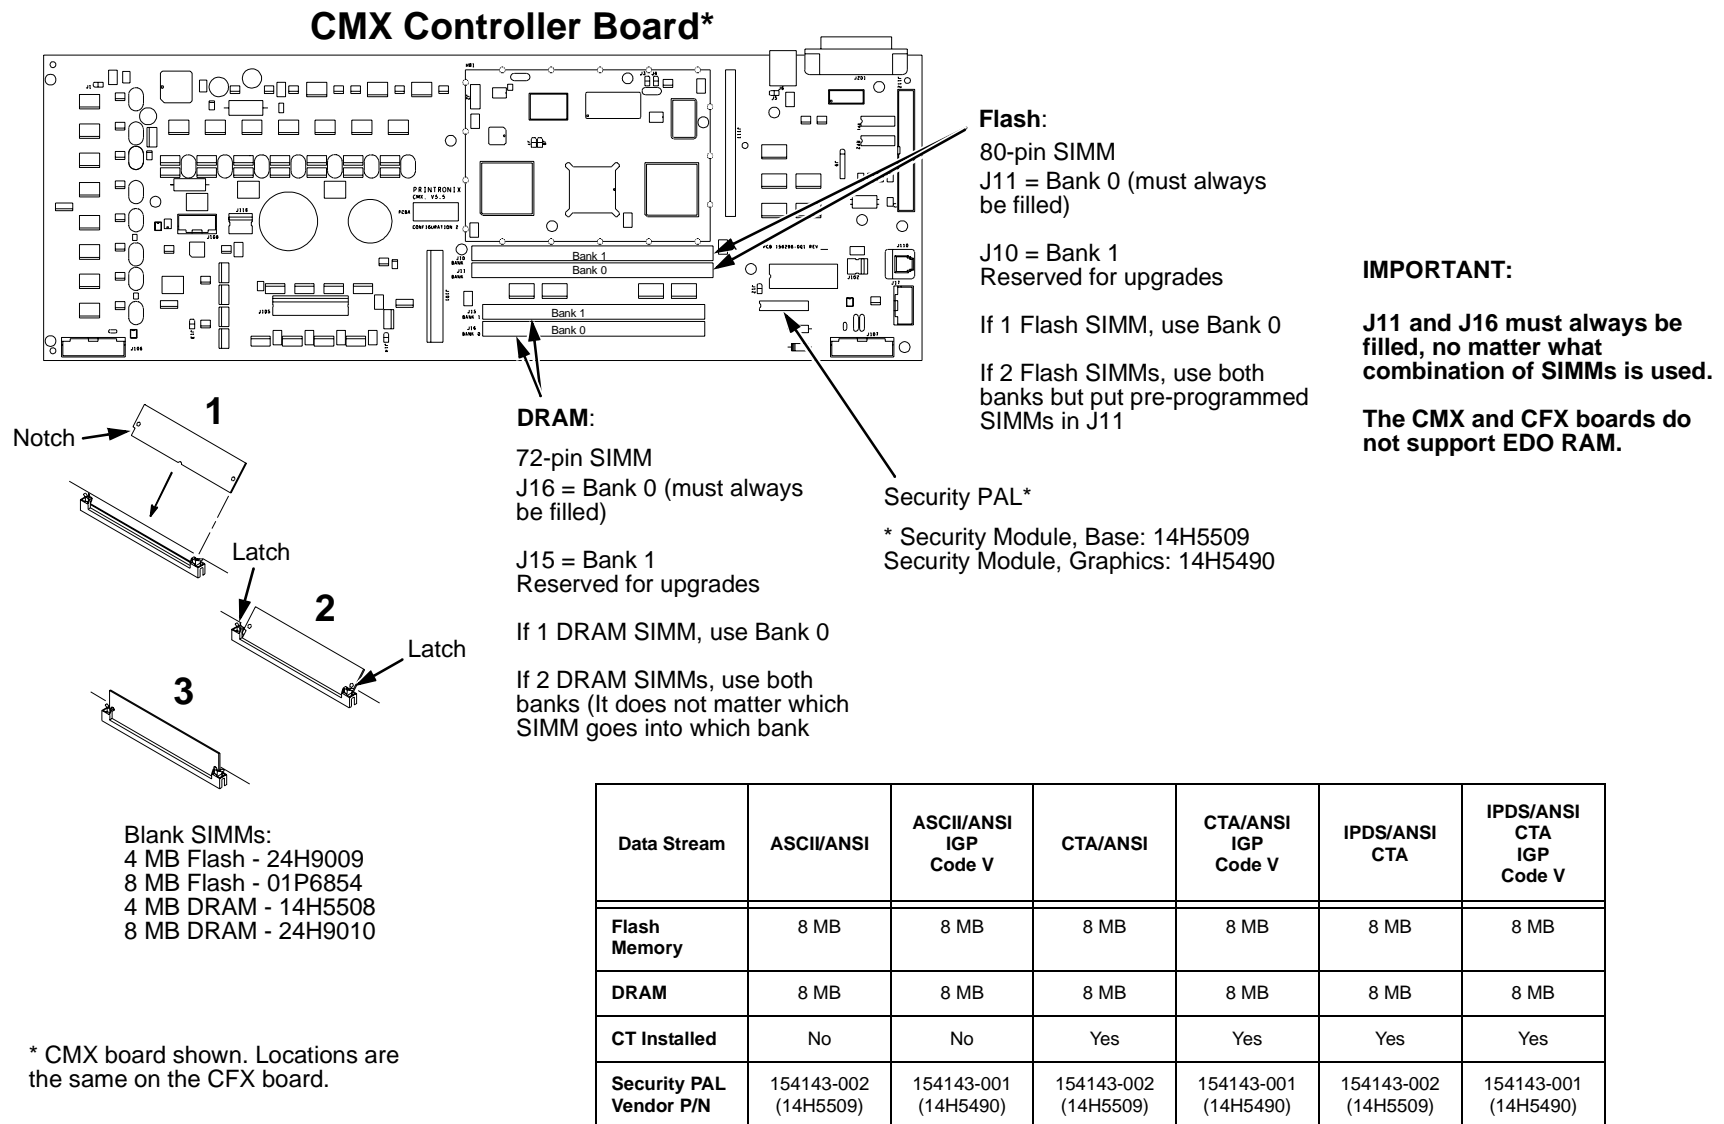

Figure 26. This figure shows the locations of Memory and Security Modules on CMX and CFX controller boards.
4. Gently pry the side locks open, angle the SIMM toward the front of the printer, and remove the SIMM from the socket. (See Figure 26, page 381 for the locations of memory modules.)
5. Using a module extraction tool, remove the security module. (See Figure 26, page 381.)
- a. Position the SIMM so the notched end is toward the right-hand side of board. (See Figure 26, page 381.)
2. Install the security module. (See Figure 26, page 381.)